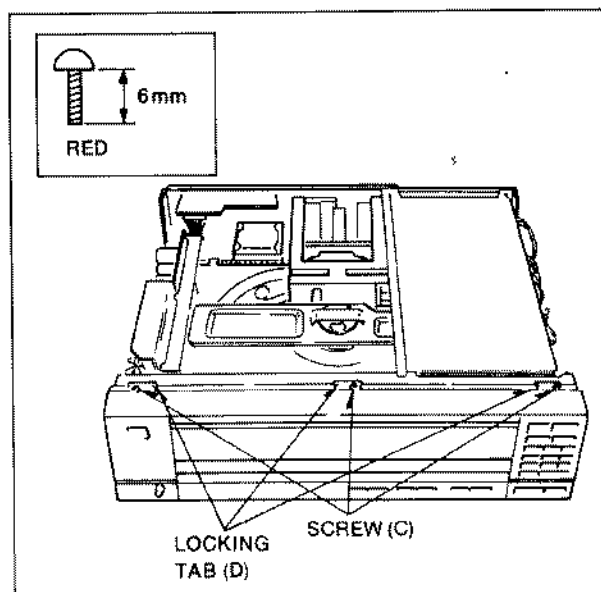

Fig. D4
2. Remove the Front Panel Unit (Refer to Fig. D4 and D5)
3. Remove 1 screw (A) on the Main C.B.A. Angle Support Bracket and 4 screws (B) on the Front Panel Angle Support Bracket to remove the Main C.B.A., Angle Bracket and Front Panel Angle Support Bracket.
4. Remove 2 screws (C) on the Rack Guide Plate (L), 3 screws (D) and spring on the Rack Guide Plate (R).